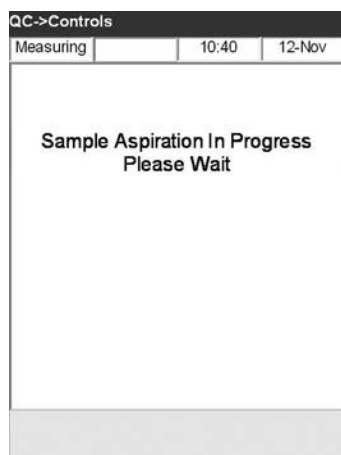

Fig. 4-27 Sample Aspiration
8. Press . The QC sample is aspirated into the cassette (Fig. 4-27).